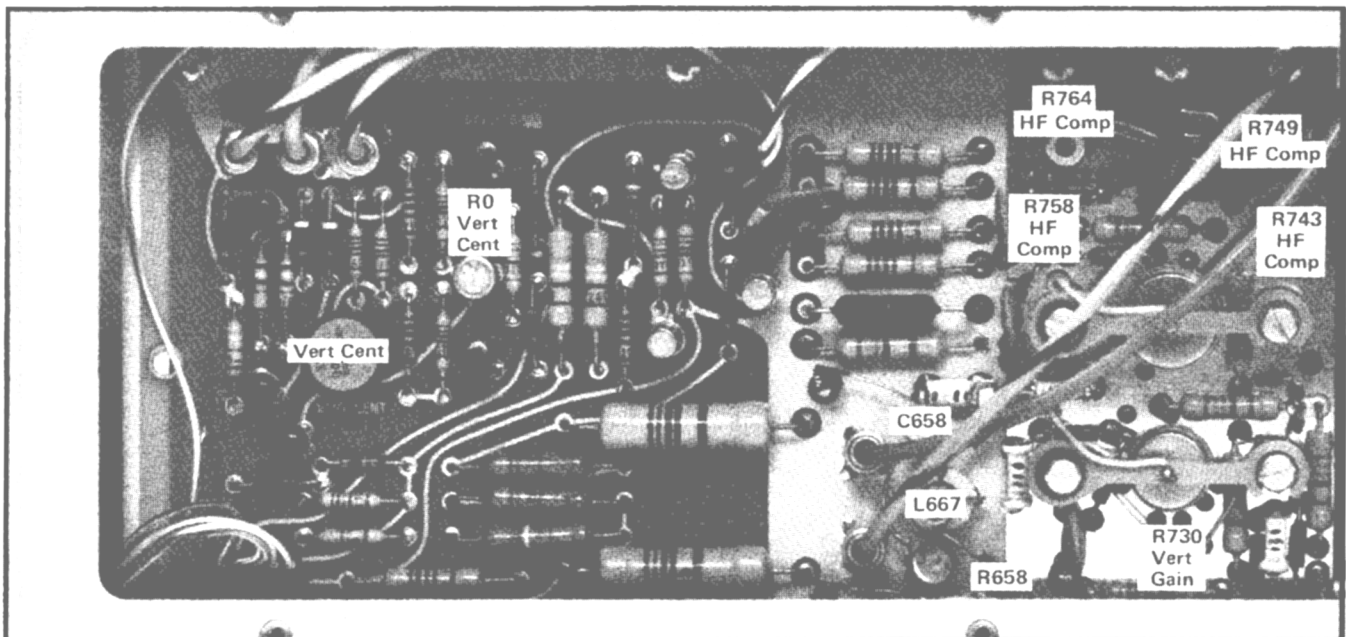

Fig. 2-4. Location of Vertical adjustments.
The vertical system adjustments are located on the Vertical Amplifier board (on left side of instrument). See Fig. 2-4 for location of adjustments.
- g. ADJUST—High-frequency compensation as given in Table 2-2 for optimum square leading corner and flat top with minimum aberrations within limits given in part f. Location of the adjustments is shown in Fig. 2-4. Use the low-capacitance screwdriver to adjust variable capacitors. Repeat the complete adjustment procedure as necessary to obtain optimum adjustment.